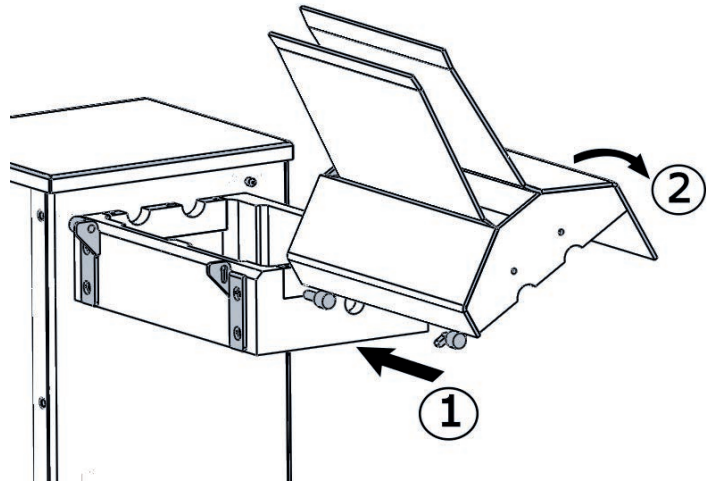

Fig 1D. Cover installation in blade support
2. Push softly the lid to the right until lid bolts touch the hinges. Turn down the lid and make sure the button lock secure the lid (See Fig. 1D).